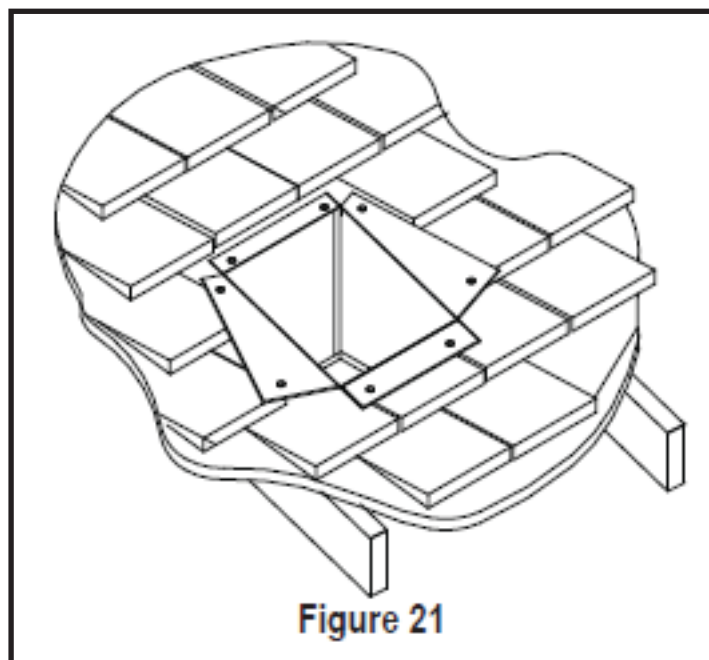

Figure 21
**Step 5.** Using tin snips, cut the Support Box from the top corners down to the roofline, and fold the resulting flaps over the roof sheathing. The flaps may be trimmed as needed (Fig. 21). Before nailing it to the roof, run a bead of non-hardening sealant around the Support Box, to make a seal between the Support Box and the roof. Clean out any combustible material from inside the Support Box.